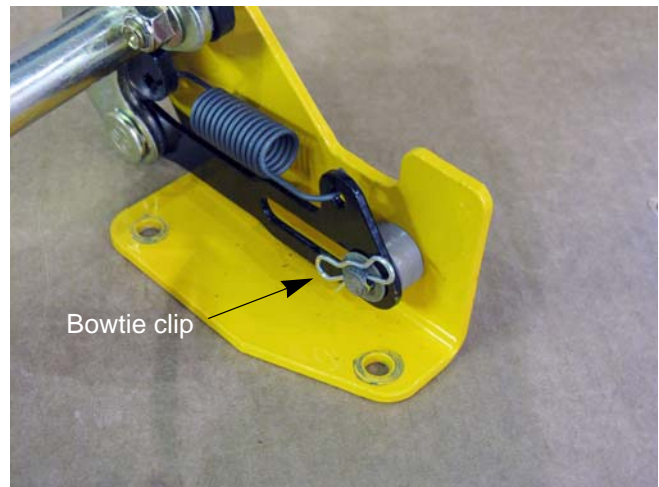

Figure 4.47
20. Remove the bowtie clip that holds the right control bracket to the pedal shaft. See Figure 4.47.